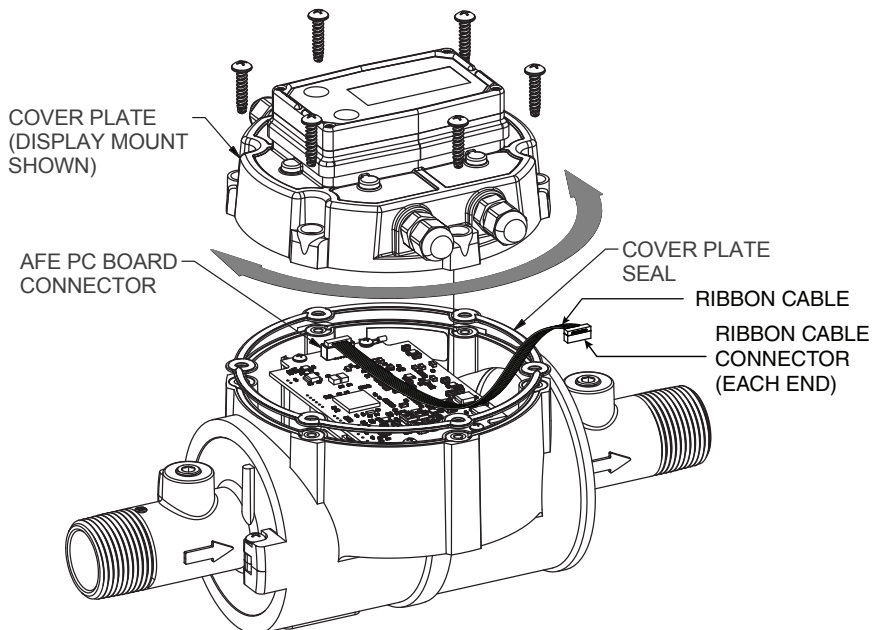

Figure 1
- Connect the QSB module PC board connector to the AFE module PC board connector inside the meter housing with the ribbon cable. The ribbon cable connectors are polarized and cannot be incorrectly connected (see Figures 1 & 2).
- Install the (6) cover plate screws and tighten. Make sure the cover plate seal is fully seated before tightening the screws.
A ribbon cable connects the QSB electronics within the cover plate to the AFE electronics within the meter body and allows 180 degrees of movement in either direction (see Figure 1).